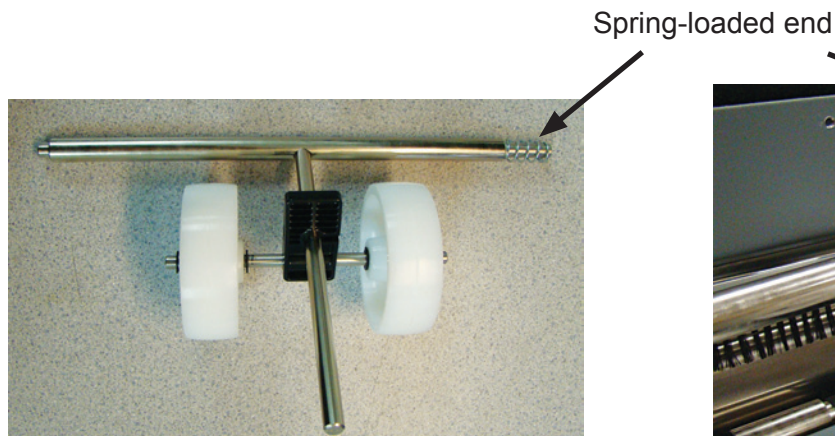

Figure 1c
3. Install outfeed wheels (Fig. 1c) by inserting the right side (spring loaded) into the right side of the body, just above the conveyor (Fig 1d), then insert the left end of the outfeed wheel crossbar into the left side.